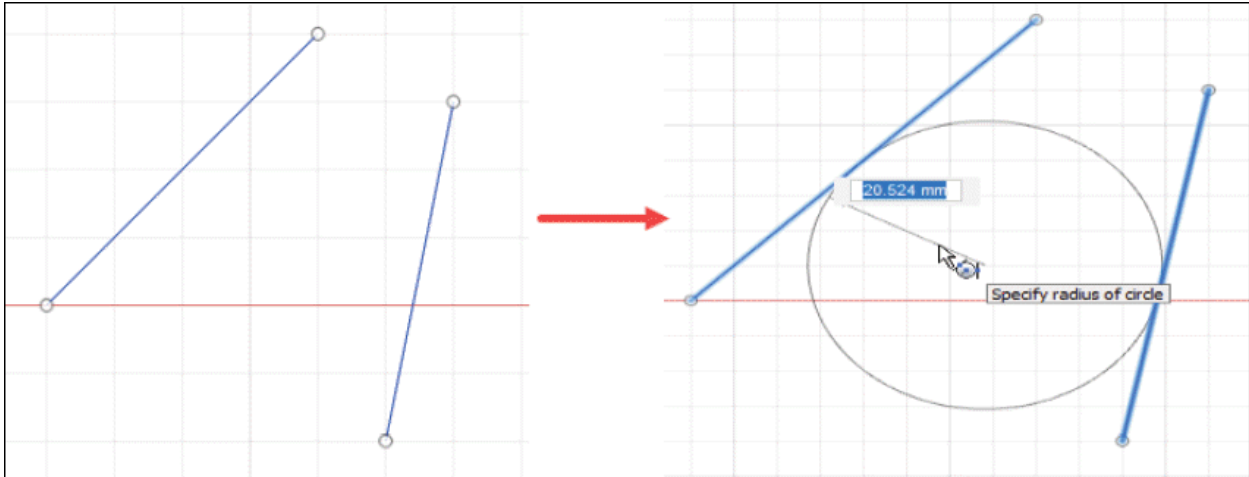

Figure-17. Creation of 2-tangent circle
- Click at desired locations on lines that should be tangent to the circle; refer to Figure-17. Preview of circle will be displayed.